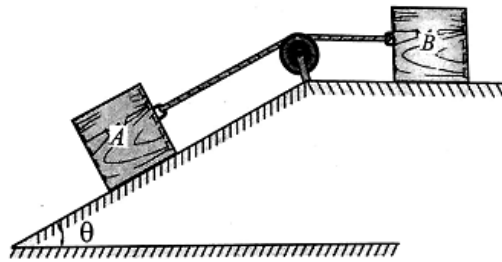

Fig.8
5. Find the value of ' Θ ' if the block 'A' and 'B' shown in Fig.8 have impending motion. Given block A = 20 kg, block B = 20 kg, $\mu_A = \mu_B = 0.25$. [L1][12 M]